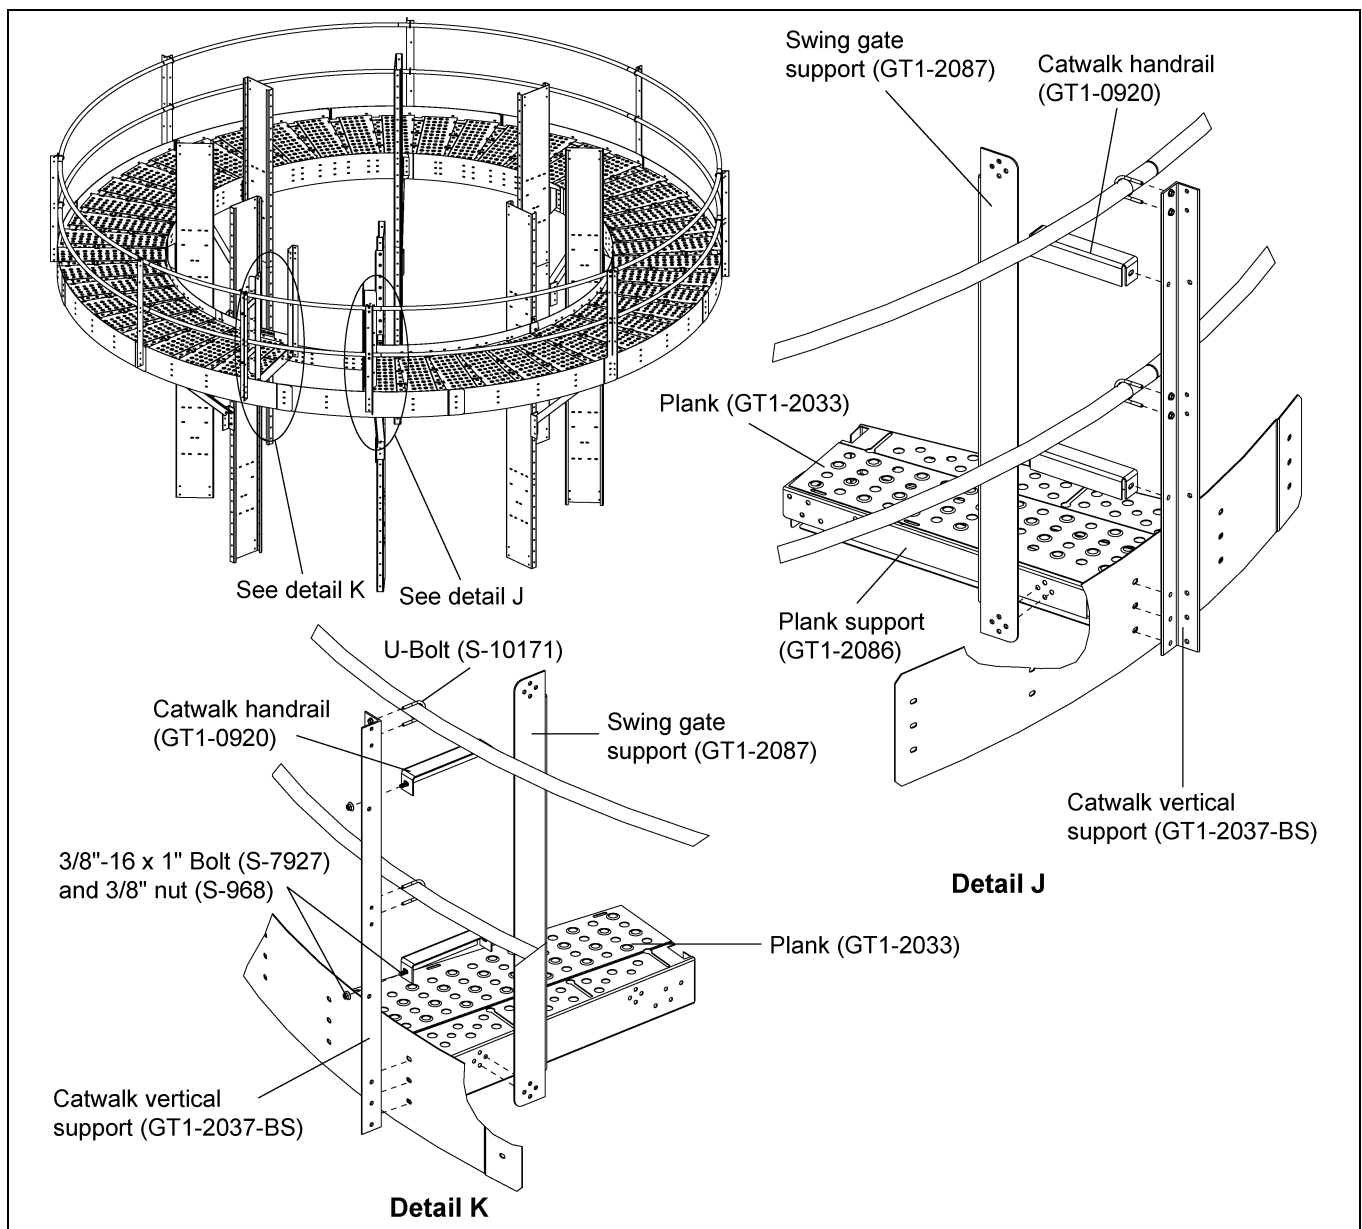

Figure 4W
1. Install the swing gate support (GT1-2087) with the plank support (GT1-2086) using 3/8"-16 x 1" YDP grade 8 or grade 8.2 bolts (S-7927) and 3/8"-16 ZN grade 5 nuts (S-968). (See detail J in Figure 4W.)
2. Install two (2) catwalk handrails (GT1-0920) between the swing gate support (GT1-2087) and the catwalk vertical support (GT1-2037-BS) using 3/8"-16 x 1" YDP grade 8 or grade 8.2 bolts (S-7927) and 3/8"-16 ZN grade 5 nuts (S-968). (See detail J in Figure 4W.)
3. On the other side, install the swing gate support (GT1-2087) to the plank (GT1-2033) using 3/8"-16 x 1" YDP grade 8 or grade 8.2 bolts (S-7927) and 3/8"-16 ZN grade 5 nuts (S-968). (See detail K in Figure 4W.)
4. Install two (2) catwalk handrails (GT1-0920) between the swing gate support (GT1-2087) and the catwalk vertical support (GT1-2037-BS) using 3/8"-16 x 1" YDP grade 8 or grade 8.2 bolts (S-7927) and 3/8"-16 ZN grade 5 nuts (S-968). (See detail K in Figure 4W.)